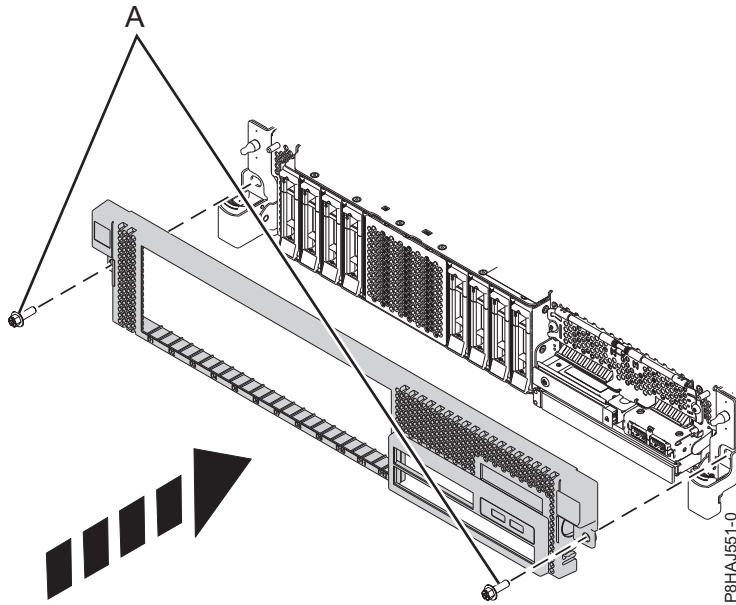

Figure 15. Installing the front cover
3. Close the release latches by pushing in the direction shown in Figure 15 on page 33. The cover snaps into place and has an indentation where you can hold onto it more easily.
4. Replace the shipping screws (A).